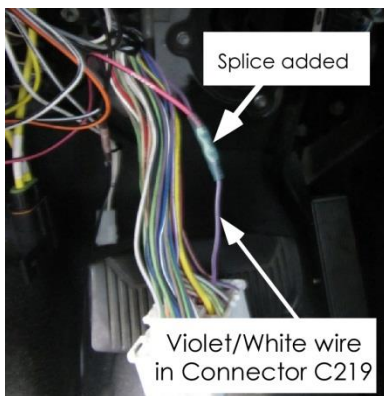

Figure 49. Violet/White wire in Connector C219 shown with splice.
8. Locate the five (5) wires in the LS Dash Harness labeled “Chassis Connections”.
10. Locate the Violet/White 18 ga. wire in pin #37 of connector C219. Unwind the plastic tape to gain access to the Violet/White wire at least 8” from connector C219 and cut the wire ≈6” from connector C219. See Figure 49.